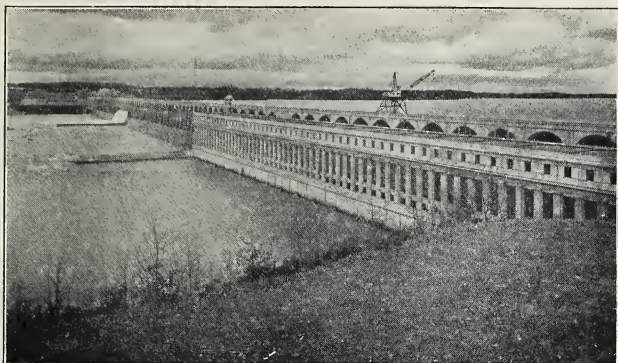

Fig. 73. Wilson Dam at Muscle Shoals, Alabama, on the Tennessee River.
**Muscle Shoals hydroelectric plant.** Muscle Shoals is a series of rapids in the Tennessee River in Alabama. Until recently, Muscle Shoals was chiefly known to the world as a serious obstruction to navigation on an ordinarily deep and navigable river. In descending Muscle Shoals, the river falls 132 feet in 37 miles, a fall nearly equal to that at Niagara, which is 160 feet (Fig. 73).